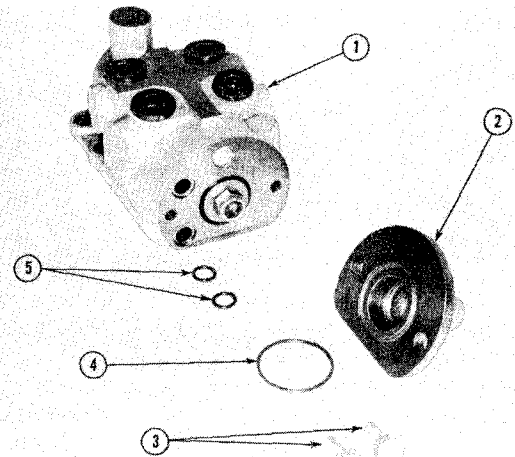

Figure 8-26
Install new "O" rings (5, Fig. 8-26) in housing (1) and new "O" ring (4) in groove of end cover (2). Install cover on housing and secure with cap screws (3). Tighten cap screws to recommended torque (refer to "SPECIAL TORQUES" under "SERVICE INFORMATION").